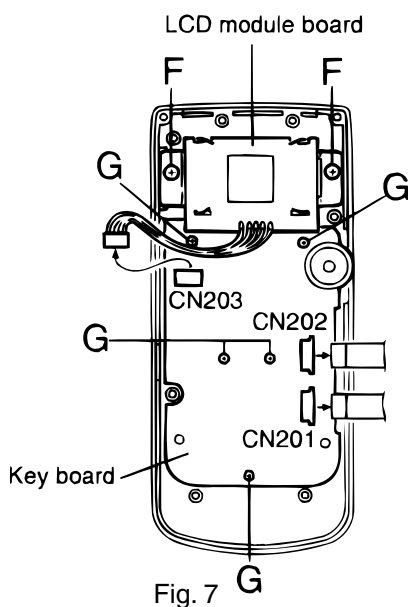

Fig. 7
9. Remove the two screws at F fixing the LCD module board . (Refer to Fig. 7)
10. Unplug the LCD module board connection cable from the CN203 connector on the key board, then remove the LCD module board. (Refer to Fig. 7)
11. Remove the five screws at G fixing the key board, then remove the key board. (Refer to Fig. 7)